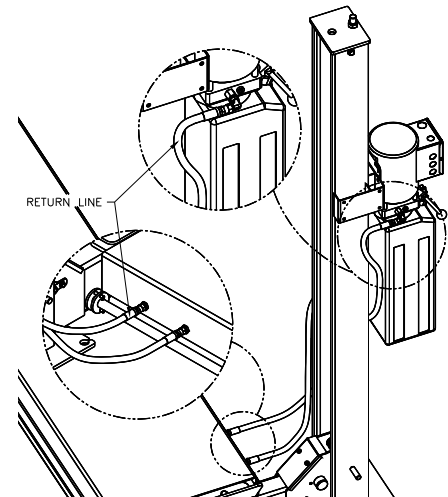

Fig 21 – Return Line, Side
- 37) Remove the 3/8-18 NPT plug on the side of the power unit and attach the 90 degree elbow, Fig 21.